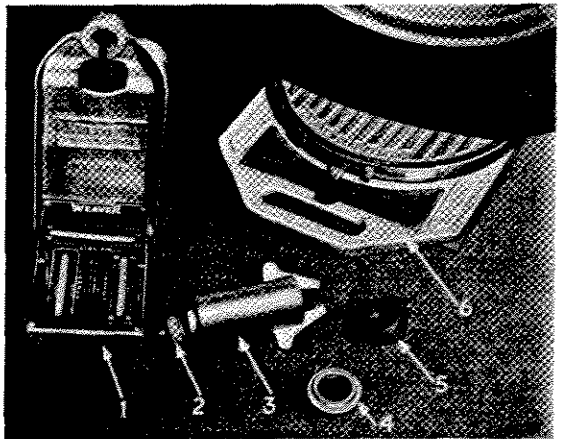

Fig. 5. Weaver measuring equipment
Slacken the setscrews (19) Fig. 5. Adjust the positions of the eccentricity drilled collars (21) to provide 31° back lock and 28½° front lock. Re-tighten the setscrews (19).
Ensuring that the split pin does not foul it, place the spacer washer (4) Fig. 5, with flange outwards, and engage the claws of the adaptor (3) on the stub axle thread between two of the nut slots. Secure the spirit level unit (1) to the adaptor and tighten the knurled nut (2).